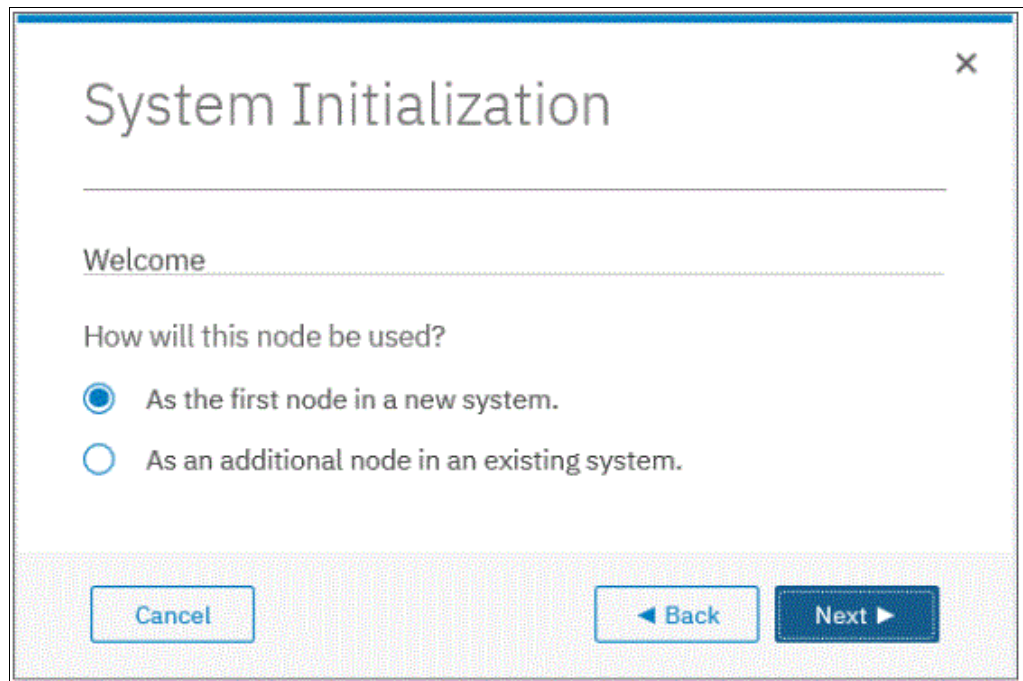

Figure 7-4 Initializing the first node of a HyperSwap system
- b. Initialize the first node of the first control enclosure by selecting **As the first node in a new system**, as shown in Figure 7-4.